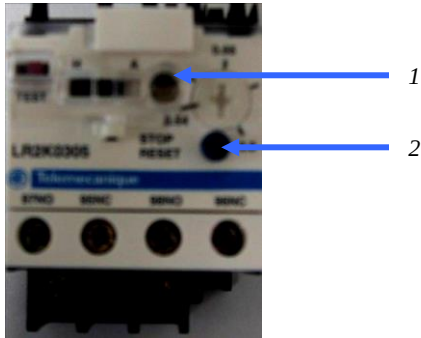

Figure 6.1.1
With thermal failures, the thermal block needs to be re-set. Always wait 30 seconds to a minute before resetting the block. Figure 6.1.1 shows a thermal protection. When the glass (1) is coloured yellow, the block is in “failure”. You now need to re-set the block using the re-set button (2). The glass will now turn transparent and the machine can be re-started.